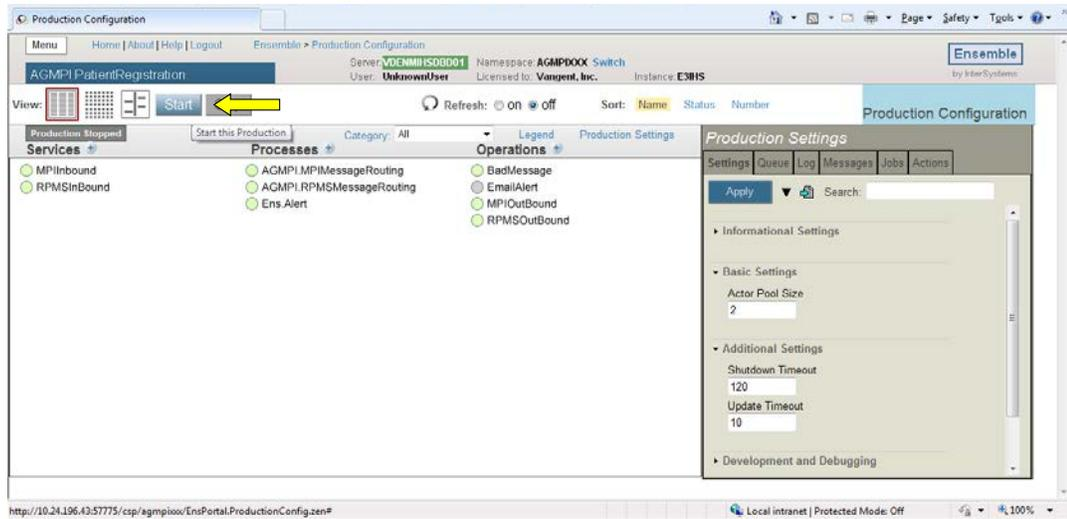

Figure 9-11: Start a production instance by clicking the **Start** button
4. To start a production, click the **Start** button on the **Production Configuration** page, as shown in Figure 9-11, then click **OK** in the **Start Production** dialog box.